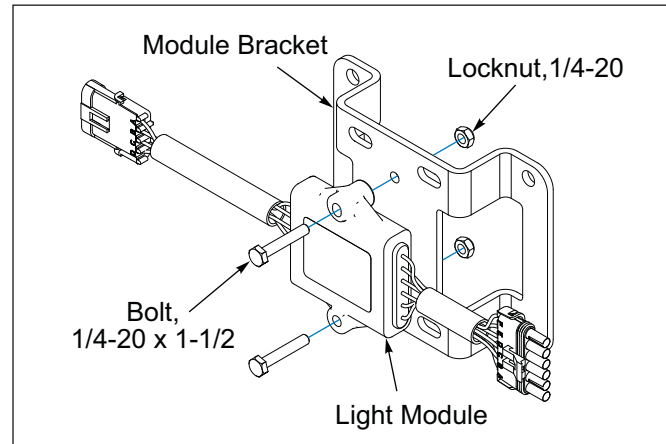

Figure 2-1: Light Module and Bracket, SSBP12
6. Attach the Light Module to the Module Bracket with 1/4-20 x 1-1/2 Bolts and Locknuts. **See Figure 2-1.**